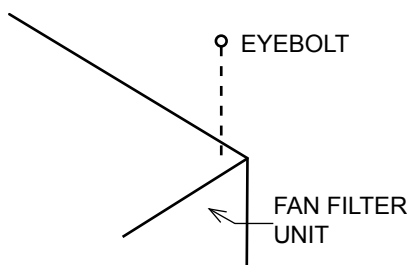

Figure 2: Hanger Supports
Step 2. If using rigidly supported grid (usually 2" (50 mm) or wider), raise unit through ceiling and lower onto the gasketed grid. If using a flexible grid (typically supported with wires), the unit must be secured to an engineered support system with s-hooks and chain. Screw the four eyebolts into the nutserts on the lid assembly before lifting into an overhead position (see Figure 2).